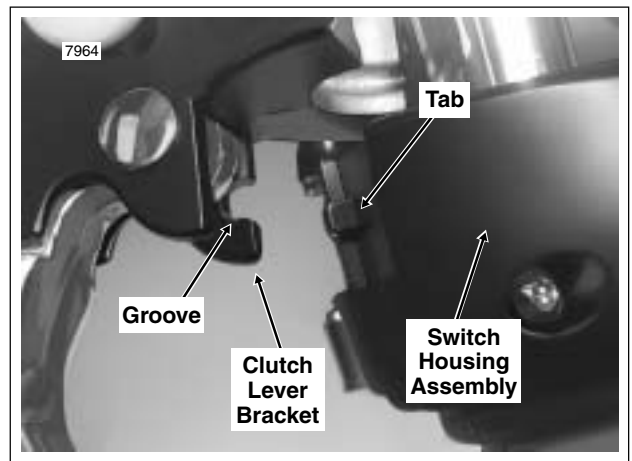

Figure 8-90. Fit Clutch Lever Bracket to Left Handlebar Switch Housings
5. Position the clutch hand lever assembly inboard of the switch housing assembly engaging the tab on the lower switch housing in the groove at the bottom of the clutch lever bracket. See Figure 8-90.